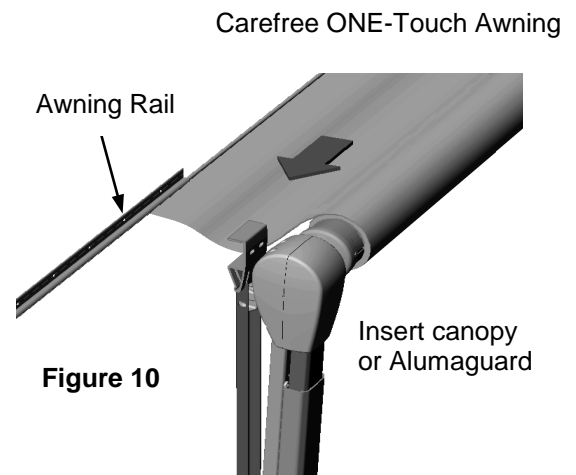

Figure 10
F. Carefully slide the awning polyrod or the Alumaguard drip rail into the awning rail as the helpers alternately guide the front and rear arms (figure 10).